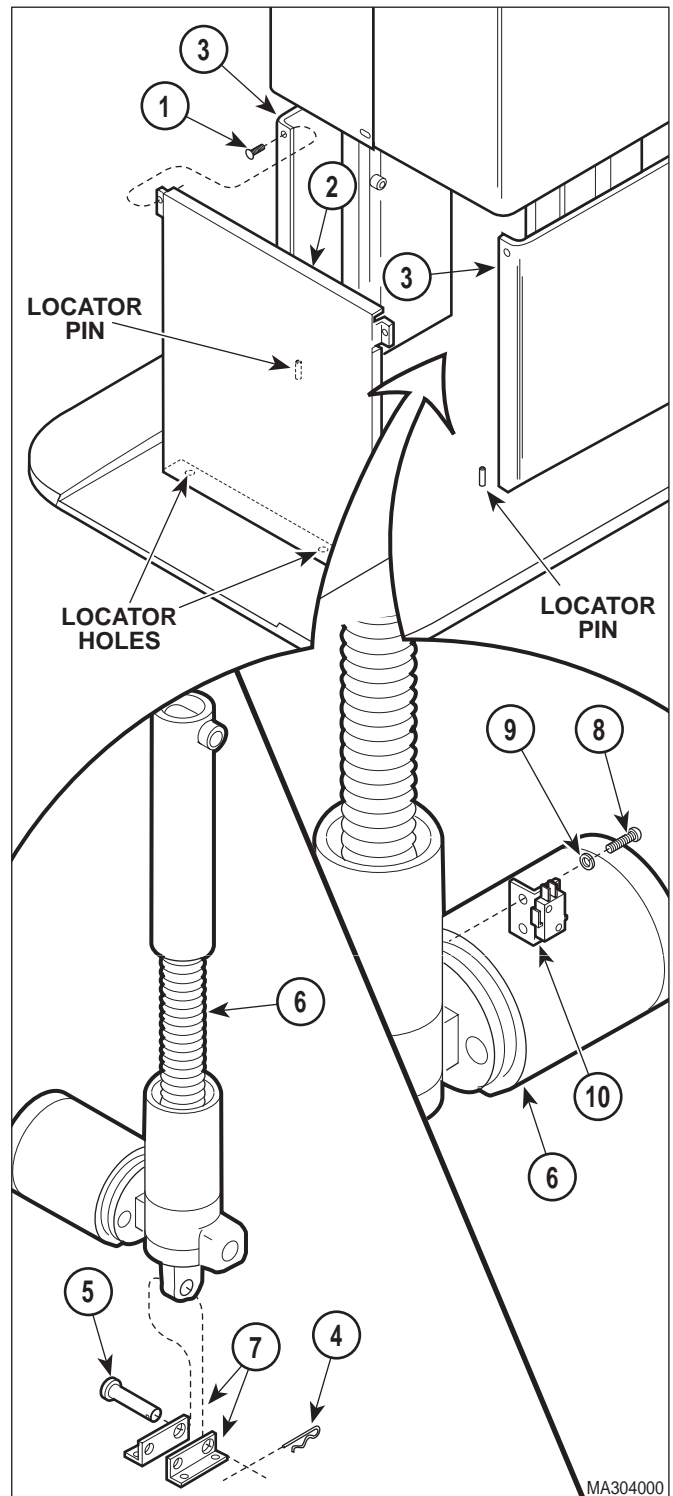

Figure 4-19. Base Actuator Removal / Installation
- (7) Remove two e-rings (9), clevis pin (10), and two spacers (11) securing shaft of base actuator (4) to bracket (12).
- (8) Remove two screws (1, Figure 4-19) and front lower shroud (2) from R.H. and L.H. supports (3).
- (9) Remove pin clip (4), clevis pin (5), and base actuator (6) from bracket (7).
- (10) Remove two screws (8), lockwashers (9), and switch bracket assembly (10) from base actuator (6).
- (1) If installing new base actuator (6, Figure 4-19), transfer marks for base receiver and base transmitter from old base actuator to new base actuator.
- (2) Install switch bracket assembly (10) on base actuator (6) and secure with two lockwashers (9), and screws (8).
- (3) Install base actuator (6) on bracket (7) and secure with clevis pin (5) and pin clip (4).
- (4) Install front lower shroud (2) on L.H. and R.H. support channels (3) and secure with two screws (1), making sure locator pins are inserted thru locator holes of front lower shroud.